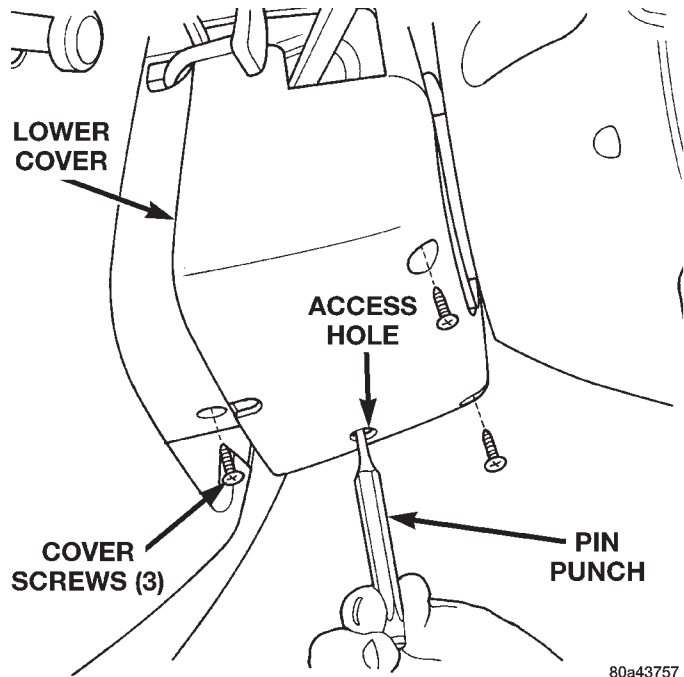

Fig. 40 Key Cylinder and Cover Removal
- (5) Position a small screwdriver or pin punch into tang access hole on bottom of steering column lower cover (Fig. 40).
- (1) Remove key cylinder. Refer to previous steps.
- (2) Remove lower steering column cover screws and remove cover (Fig. 40).